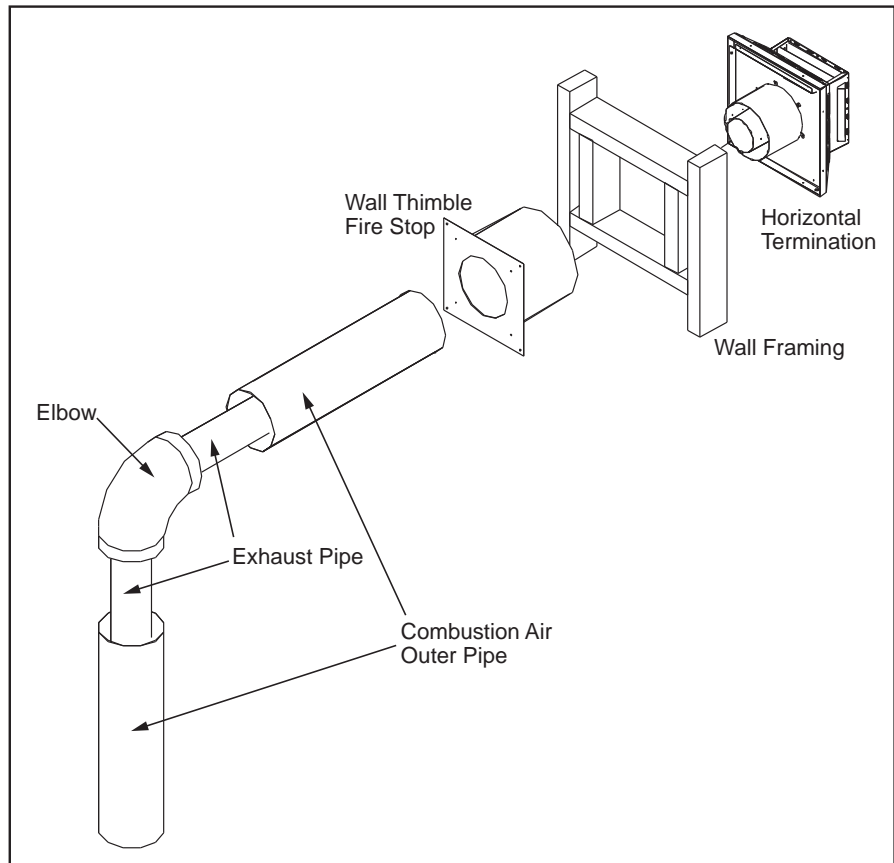

Figure 25. Horizontal Vent Termination
**Step 3.** With the pipe in the correct position and attached to the fireplace, mark the wall for a **10" (25.4 cm) x 10" (25.4 cm)** square hole (see Figure 25). The center of the hole should match the center line of the horizontal pipe. Cut and frame the hole in the exterior wall where the vent will be terminated. If the wall being penetrated is made of a non-combustible material (i.e. masonry or concrete) a **7" (17.8 cm)** hole is acceptable.